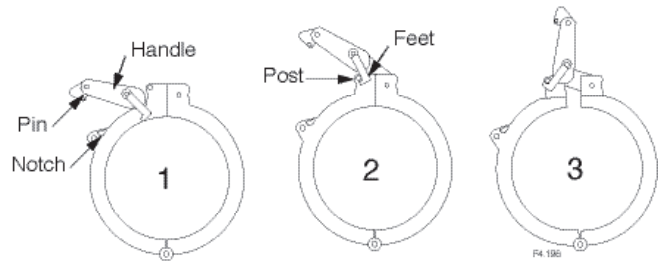

Figure 2
1. Remove the dome-to-base clamp. Pull the clamp slightly to the side and lift the clamp handle, using the feet of the clamp to pry against the two posts to spread the clamp open. Open one side of the clamp all the way and pull it back on itself quickly to remove it from the dome and base. (Fig. 2)